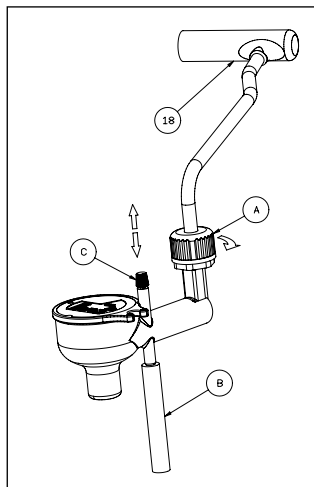

FIG 2
- Make sure that the steam tap knob (4) is closed, (picture B);
- Turn the steam pipe (12) clockwise until it stops and slip the steam pipe out of its seat, pulling it rightwards, (picture N);
- Slide the Automatic Cappuccino maker onto the steam pipe (18) up to the stop and tighten the locking ring (clockwise) (Fig. 2).
- Slip in its seat the device with the Cappuccino Automatic (17), pushing it leftwards, (Fig. 2). Turn the device with the Cappuccino Automatic (17) anticlockwise until it stops.
- insert the silicon tube (20) in the milk container, placed next to the machine, (picture P);
- place the cup containing the previously prepared coffee under the nozzle of the Cappuccino Automatic, and open the steam tap knob (4) by turning it anticlockwise; this will start the delivery of emulsified hot milk, with abundant froth. To stop the delivery, close the steam tap knob (4), by turning it clockwise.
You can adjust the milk froth by acting on the pin (C) (Fig. 2), Cappuccino Automatic to have the desired consistency of cream. For a cream with greater volume, move the plug upwards (Fig. 2). When you are done making cappuccino you must clean milk residues from the Automatic Cappuccino maker.
1. put beside the machine a full glass of water, and dip the suction pipe (B) .
- **The cappuccino can also be prepared by using the steam pipe (11).**
- To obtain the milk froth for the cappuccino, pour the milk to be prepared in a tall and narrow container until it is half full, immerse the steam pipe (11) until it touches the bottom of the container, slowly turn the steam tap knob (3) anticlockwise and bring the milk almost to the boiling.